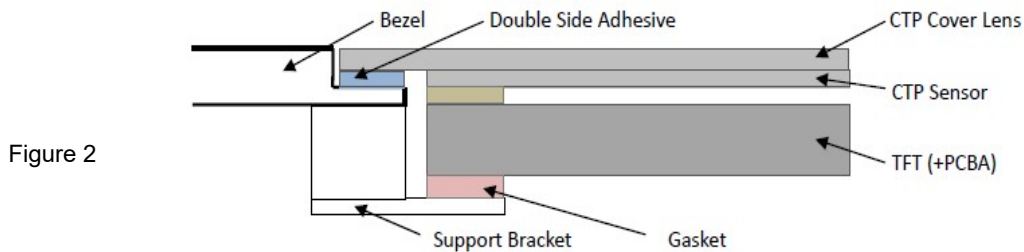

Figure 2
9.2 Surface Mounting (Figure 2)
9.2 嵌入安装 (附图 2)